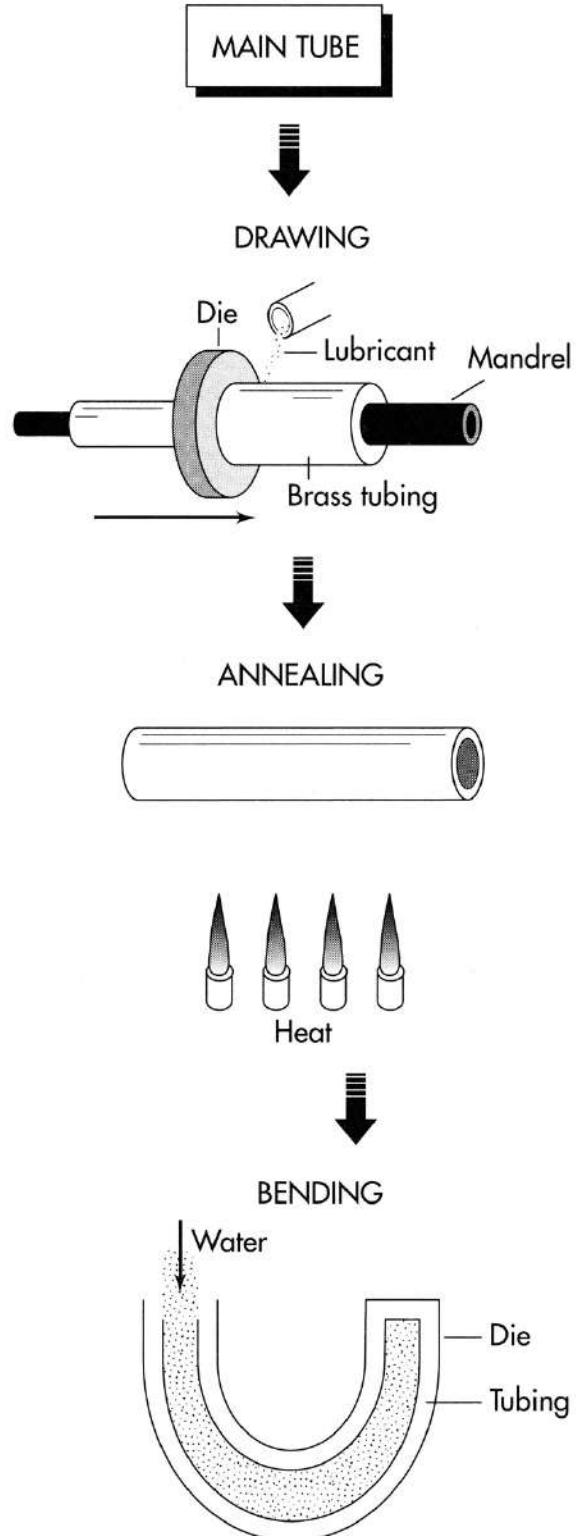

Figure 1. The various parts of the trumpet are manufactured by drawing, hammering, bending, and annealing procedures.
1. The main tube of the trumpet is manufactured from standard machinable brass that is first put on a pole-shaped, tapered mandrel and lubricated (see figure 1). A die that looks like a doughnut is then drawn down its entire length, tapering and shaping it properly. Next, the shaped tube is annealed—heated (to around 1,000°F [538°C]) to make it workable. This causes an oxygen compound to form on the surface of the brass. To remove the oxidation, the tube is bathed in diluted sulfuric acid before being bent.